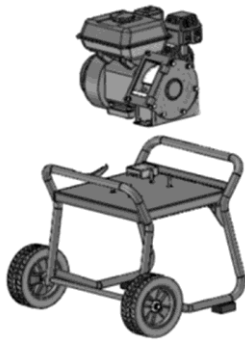

Fig. 3a
- Position the engine and chipping chamber assembly onto the frame platform. Refer to Fig. 3a.